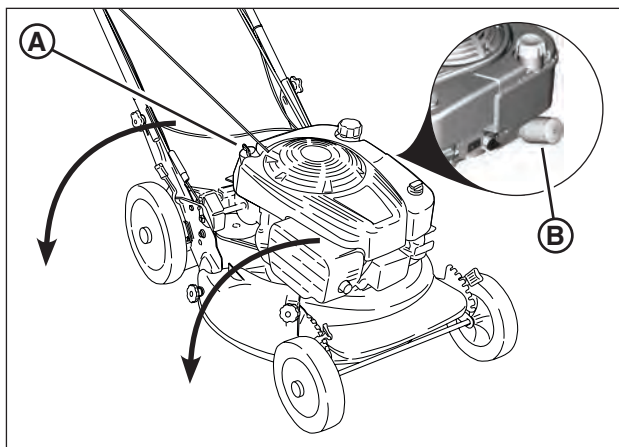

Figure 14: Draining the engine oil
2. Remove the dipstick (**A**, **Figure 14**), then turn the mower on its side. Allow the oil to drain from the oil fill tube into an appropriate container. Dispose of used oil properly.
2. Remove the oil filter (**B**, **Figure 14**) and dispose of properly.